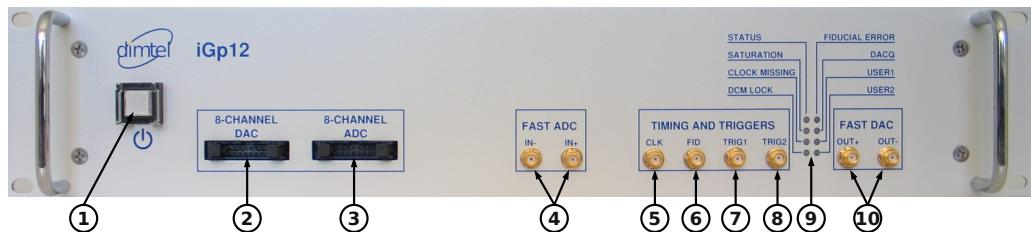

Figure 2: Front panel features
2. Connect RF clock at -3 dBm nominal level (Fig. 2, item 5);
3. Connect single-ended high-speed ADC input signal to Ain+ (Fig. 2, item 4). The FS swing of this signal should be 780 mV peak-to-peak;
4. Connect a $50\ \Omega$ terminator to Ain- (Fig. 2, item 4);
5. Connect high-speed DAC output(s) (Fig. 2, item 10) to the appropriate back-end unit;
9. Push the power button (Fig 2, item 1) to turn on the system;
11. Push the power button (Fig 2, item 1) to turn the system off;